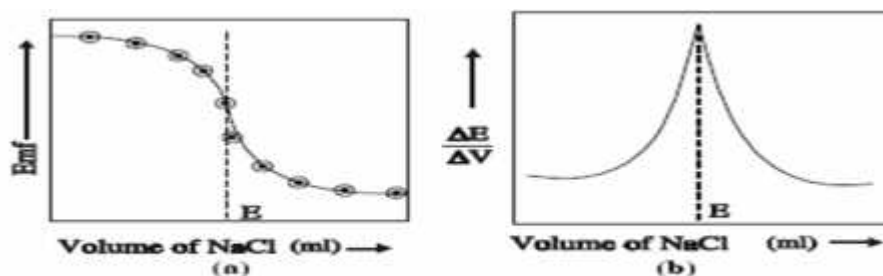

Fig. 1.13  $E_{\text{cell}}$  Vs Vol. of  $\text{NaCl}$
- When the emf is plotted against the volume of  $\text{NaCl}$  added a curve of the type shown in figure 1.13 is obtained.